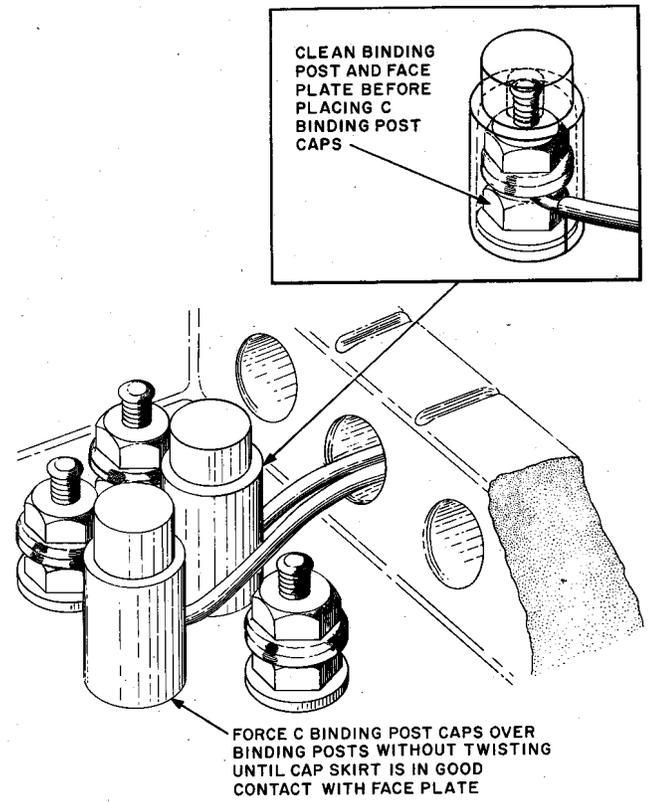

Fig. 31—Placing C Binding Post Caps
7.12 Place the caps over the binding post with the slit in the line with the terminated wire. Force the cap down over the binding post with terminated wire in the slit until the skirt of the cap is in good contact with the faceplate. Adjust terminated wire so that it is positioned inside the hole of the cap as indicated in Fig. 31.
7.13 C binding post caps are shown in Fig. 31.